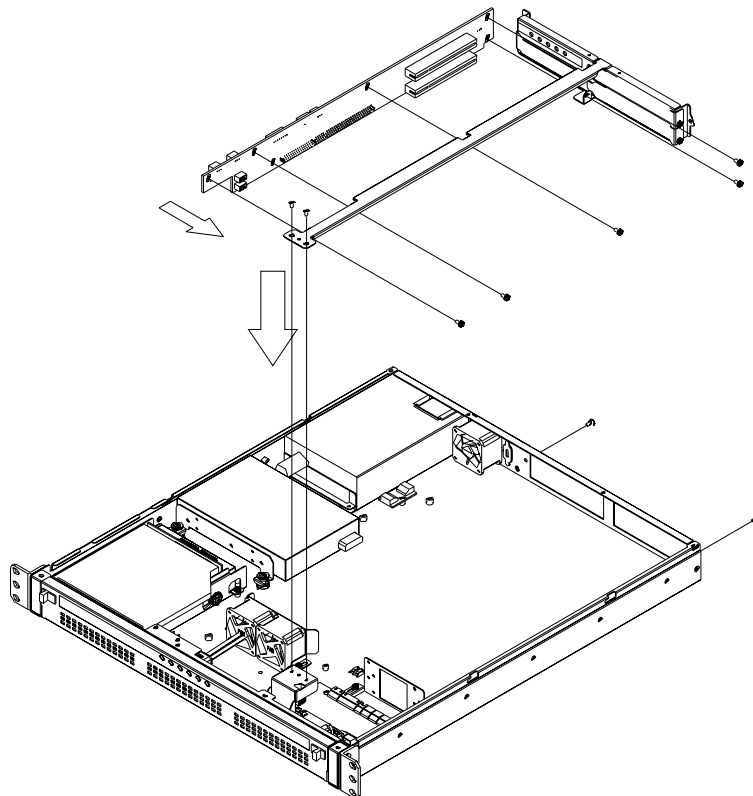

Figure 2.2 Installing a backplane
1. Remove the backplane (T-bar) holder and then fix the backplane onto it with screws. (Figure 2.2)